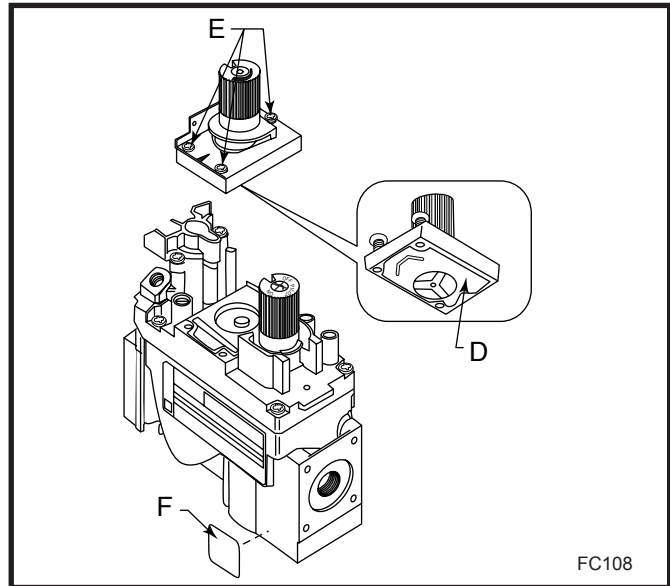

Fig. 23 Replace regulator.
2. Insure the rubber gasket (D) is properly positioned and install the new HI/LO pressure regulator assembly to the valve using the new screws (E) supplied with the kit. Tighten the screws securely. (Ref. torque = 25 in/lb) (Fig. 23)
3. Install the enclosed conversion label (F) to the valve body where it can easily be seen. (Fig. 23)